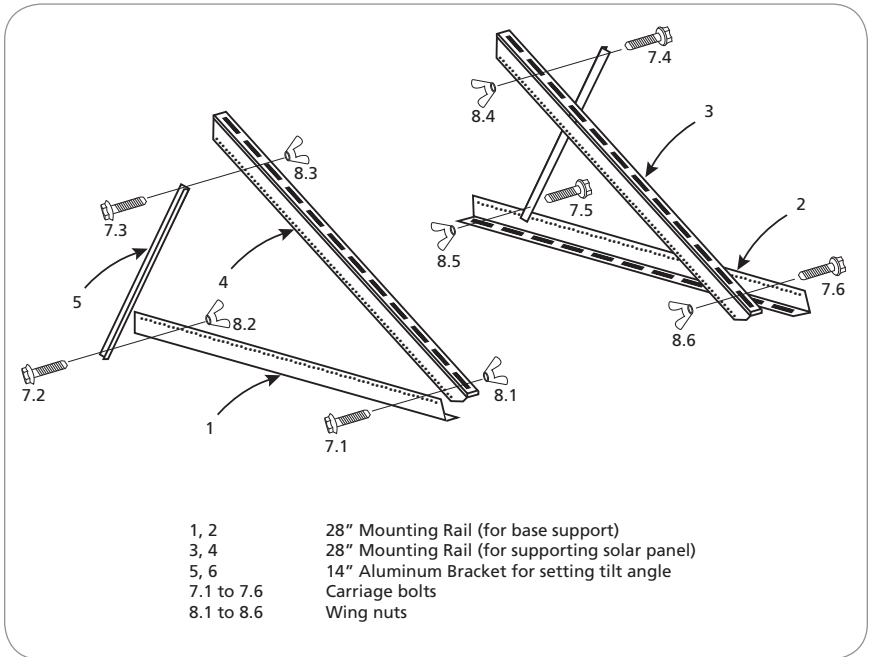

Fig.1. ADJ-28 Tilt Mount
The ADJ-28 Tilt Mount kit includes 4 Nos. sturdy 28" Aluminum mounting rails, 2 Nos. 14" Aluminum brackets (Fig. 1) and stainless steel hardware required to securely fasten a solar panel to the roof of your Recreational Vehicle (RV) or any other flat surface. The inclination of the solar panel can be adjusted to a desired angle with respect to the horizontal axis.
A Well-Nut is a bushing of tough neoprene rubber with a flange at the top end and a captive brass nut mounted within the bore at the bottom end (Fig. 2). This is used to anchor the 28" base support mounting rails (1, 2 of Fig.1) on to the roof of the RV or to other flat surface. Typical installation is shown in Figs 3 to 6. Tightening a conventional machine bolt or screw engages the captive nut thereby causing the bushing to expand outwards. This fastens securely to thinner RV roofs by bulging up and against the bottom surface of the roof (Fig. 5). If used in a blind hole in a solid surface material, the rubber will expand outwards to create a secure fastening (Fig. 6). The neoprene and brass resist most environmental conditions. Additionally, the Well-Nut seals the drilled hole effectively against air and liquid leakage.
2. Fix one pair of 28" mounting rails (3, 4 of Fig.1) to the shorter sides of the solar panel frame using the slotted opening and the 1/4"-20 x 3/4" Flange Bolt, Nylon Locknut and flat washer (Fig. 7). Using a 7/16" wrench, tighten the nuts to secure the mounting brackets to the PV panel. Recommended tightening torque is 15 lbs.
3. Attach the second pair of 28" mounting rails (1, 2 of Fig.1) to the first pair of mounting rails at one end using the wing nut and the 1/4"-20 x 1" carriage bolt, so that it pivots at one end (Point A in Fig. 9).
### Anchoring 28" base support rails (1, 2 of Fig.1) to the RV roof or flat surface with the help of Well-Nuts
4. Position the second pair of 28" mounting rails (1, 2 of Fig.1) on the RV roof or flat surface at the desired location and mark two sets of mounting hole positions on each 28" rail. It is desirable to have the mounting holes located as close to the extremities of the 28" mounting rails (1, 2 of Fig.1) as possible.
5. To install the Well-Nuts to anchor the two base support mounting rails (1, 2 of Fig.1), drill holes 1 1/4" deep at the marked positions using a 1/2" size drill bit. Make sure that drilling does not interfere with pre-existing wiring installations.
8. Fasten the base support mounting rails (1, 2 of Fig.1) to the roof surface by inserting the 1/4 x 1 1/4" serrated flange bolt into the Well-Nut. Tighten using a 3/8" wrench to a recommended torque of 15 lbs. When the serrated flange bolt is screwed into the Well-Nut, the material surrounding the well nut bulges slightly securing the structure to the RV roof (Fig. 5, Fig. 8).